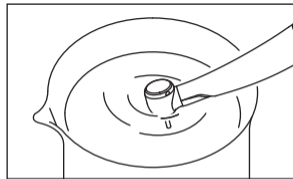

Fig. 6
- 3) Rotate the handpiece and immerse half of the handpiece head in the cup of water (Fig. 6).